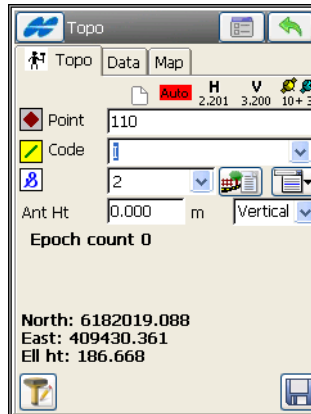

Figure 8-20. Topo for PP Survey
- In the survey for post processing, begin logging files to the receiver: tap the  button (see Figure 8-20 on page 8-23). To stop logging, tap the same button (during the logging process, this button says “stop log” , and the symbol ).